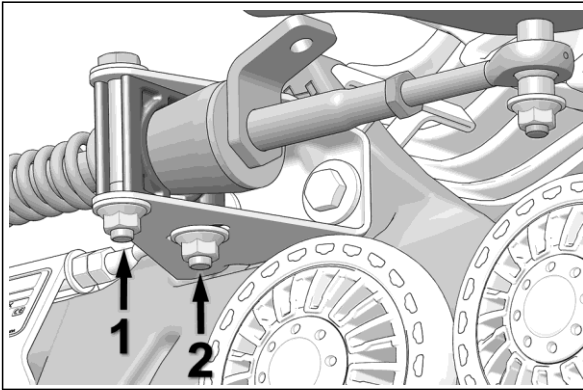

Figure 17
- Re-tighten anti-rotation bracket bolts (1) and (2) to 50 N•m [37 lb-ft] of torque. See Figure 17.